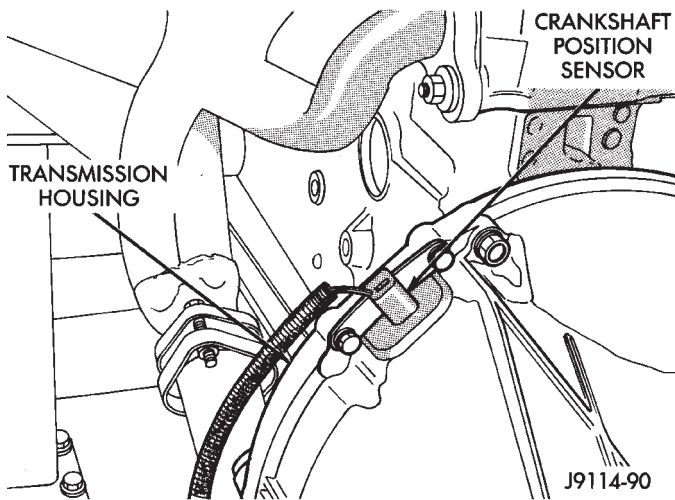

Fig. 6 Crankshaft Position Sensor—4.0L Engine
The crankshaft position sensor is mounted to the transmission bellhousing at the left/rear side of the engine block (Fig. 6).
(1) Near the rear of the intake manifold, disconnect the pigtail harness on the sensor from the main electrical harness.
- (2) Raise and support the vehicle.
- (3) Remove the two sensor mounting bolts (Fig. 6).
- (4) Remove the sensor.
- (5) Remove clip from sensor wire harness.